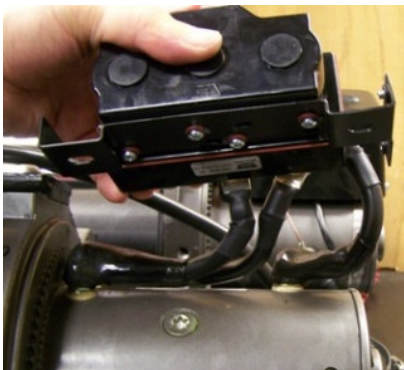

Figure 7
Step 7: Gently lift up the contactor from the motor housing. (Figure 7)